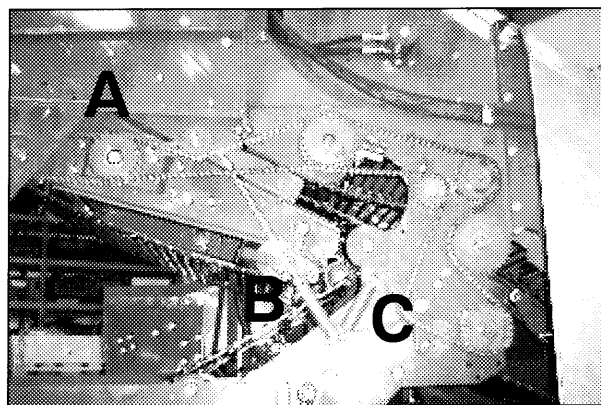

Fig. 48-4
**Main drive unit** (Fig. 48-4 C)
**Secondary sieving web** (Fig. 48-4 B)